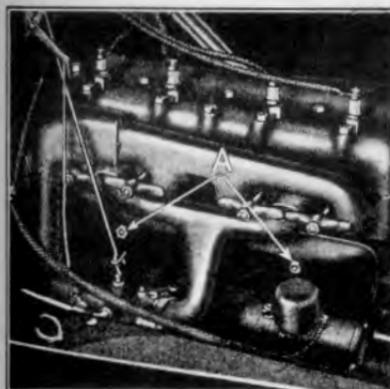

Fig. 217
- 363 Remove cylinder valve cover and gasket by running off the two cylinder valve cover stud nuts (See "A" Fig. 217).
- 377 Replace cylinder valve cover and gasket by positioning gasket and cover on the two cylinder valve cover studs and running down the two nuts over ends of studs (See "A" Fig. 217). Before installing gasket make sure it is in first-class condition.